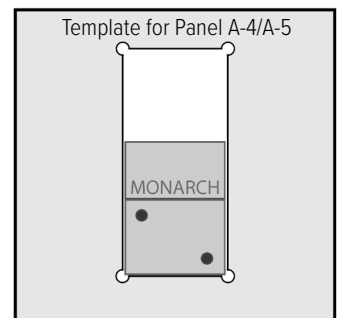

Figure 3.2.1
3.2.1 Fasten Z-clips to the cab wall at each open slot in the template as shown in **Figure 3.2.1**.